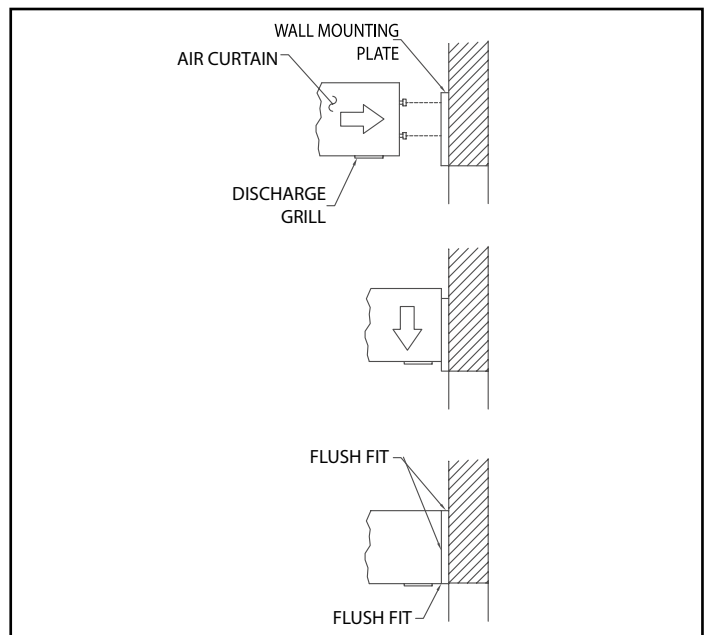

FIGURE 4 - Mounting to Wall Plate
1. Raise the air curtain with the discharge opening facing down toward the floor. While holding the unit level, slide the heads of the shoulder bolts into the larger hole of the key-hole slots of the mounting plate. **See Figure 4.**
3. After the unit is securely attached to the mounting plate, re-install the two (2) locking screws at the bottom corners. **See Figure 4.**